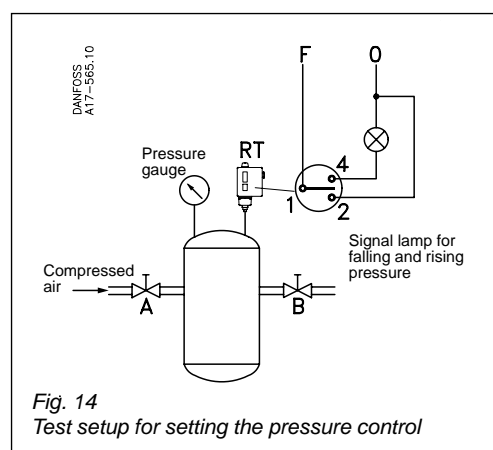

Fig. 14
The neutral zone, $35 - 32 = 3$ m wg, corresponding to 0.3 bar, must be set on the neutral zone disc (40) fig. 8 page 11. According to the diagram fig. 12 the disc setting is 1 or just over. A more accurate setting can be obtained by using the test setup shown in fig. 14.